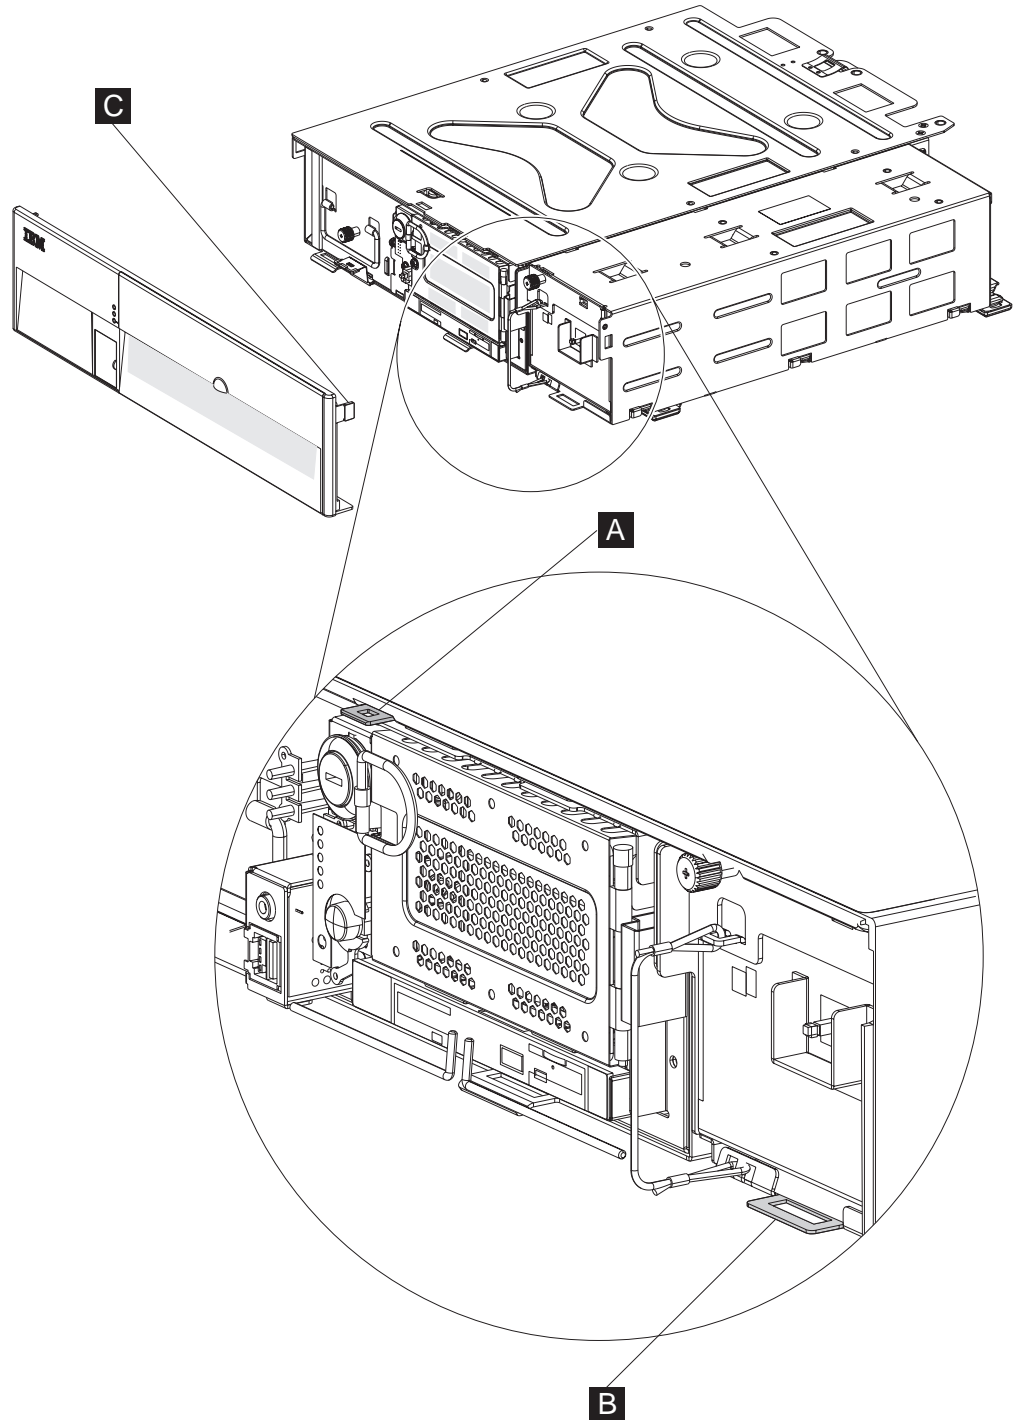

Figure 29. Placement of bezel
1. Locate the hooks on the bottom of the coverless front bezel and align these hooks with the slots on the unit frame ( **B** in Figure 29).